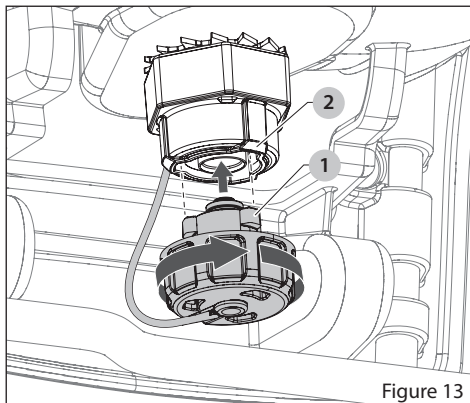

Figure 13
1. Align the tethered cap plug barb tabs (1) with the tank cap (2) and push into the cap until it stops.
2. Turn tethered cap plug clockwise to secure it to the cap. See *Figure 13*.